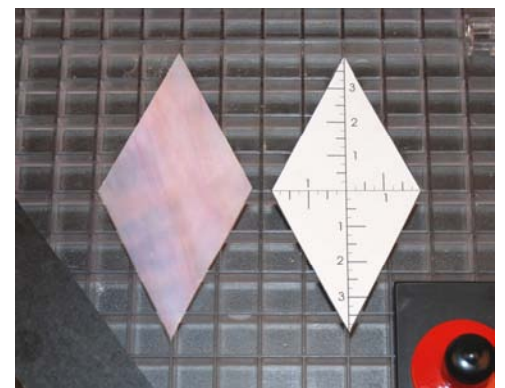

*figure 5*
**5.** Make your orientation cut on your strip of glass. (figure 5)